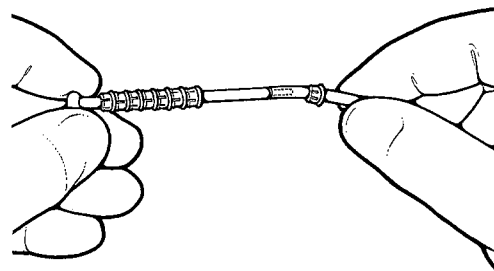

Figure 4-19a. Slide Collet Ring Onto Tubing
4. Slide collet ring onto tubing (**Figure 4-19a**), making sure that teeth of collet ring face toward tubing end.